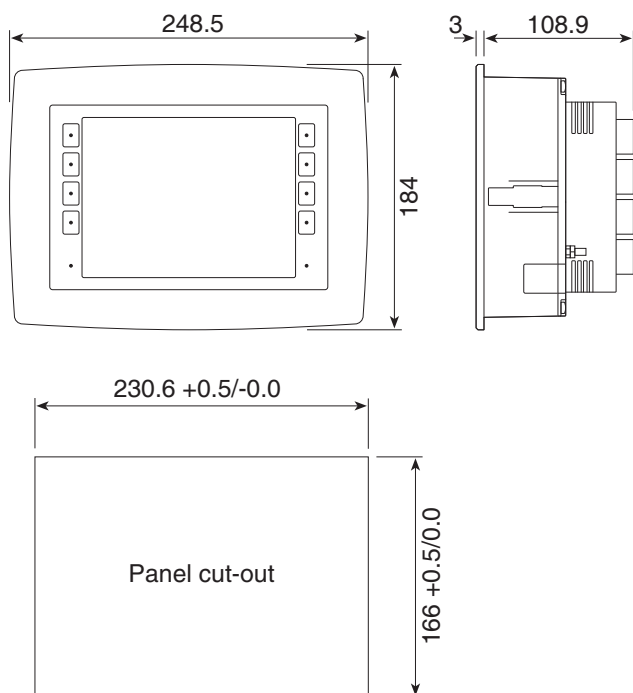

Fig 2 BA3101 dimensions including plug-in modules and panel cut-out
Fig 2 shows the overall dimensions of the BA3101 including the plug-in modules and the panel cut-out.
1. Cut the aperture specified in Fig 2 in the panel and ensure that all edges are de-burred.